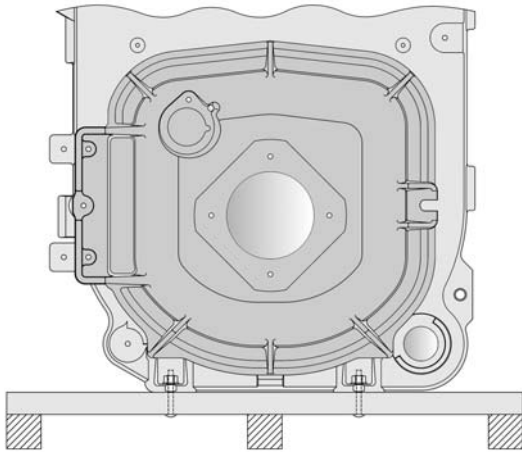

Figure 3: Knockdown Boiler Removal from Skid
1. Boiler is secured to skid with 4 bolts, 2 in front and 2 in rear of shipping skid, see Figure 3. Remove all bolts.